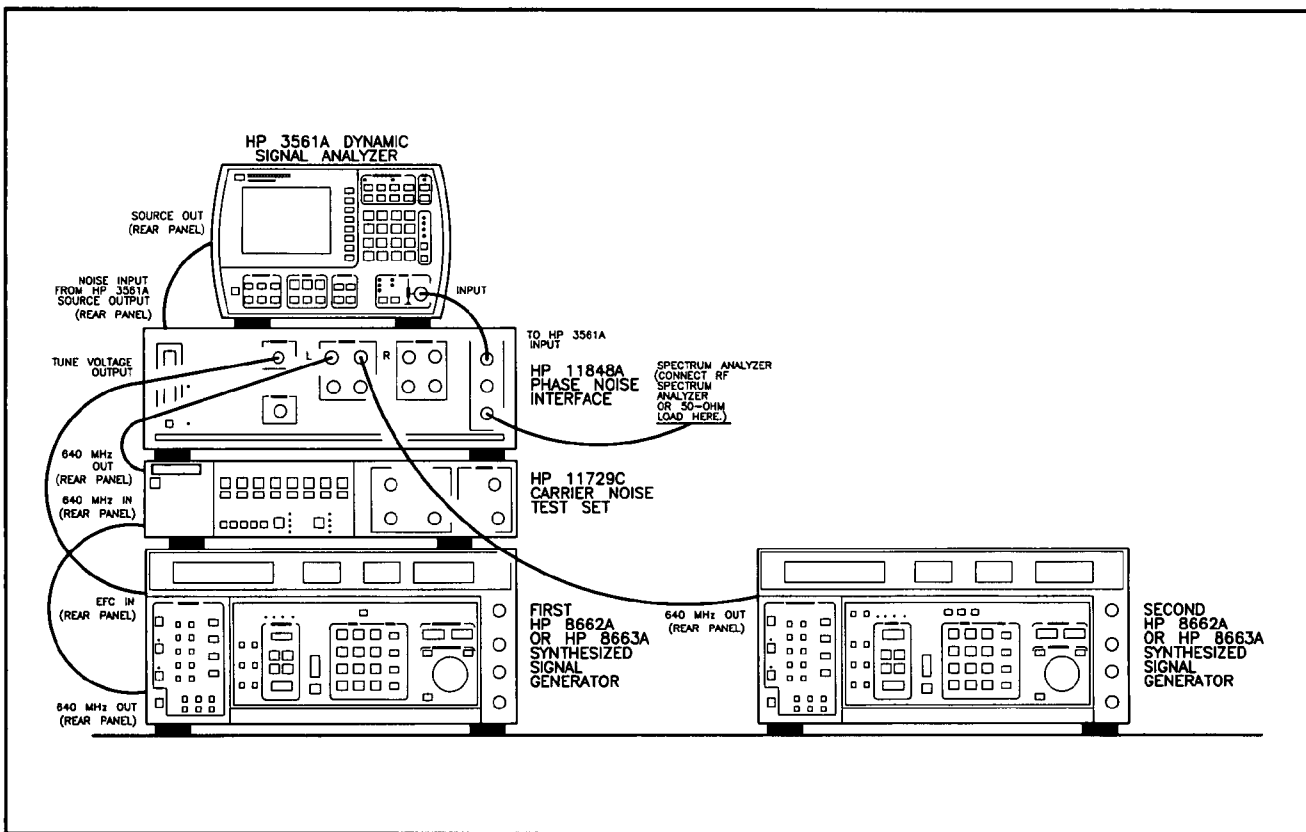

Figure B-1. HP 8662A or HP 8663A 640 MHz Spectral Purity Test
8. Connect the instruments as shown in Figure B-1.
The on-screen connection diagram, while showing the general measurement technique, is incomplete. Also note that neither of the HP 8662As or HP 8663As in Figure B-1 are under HP-IB control.